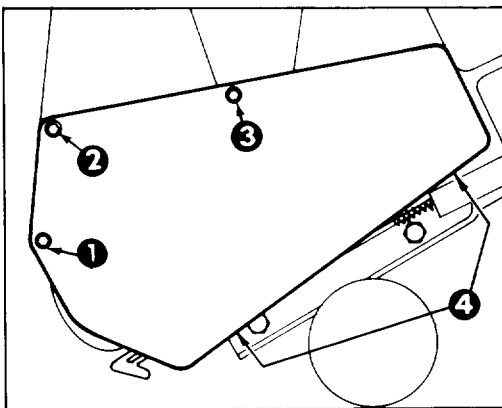

**Figure 12**
3. Tip snowthrower up onto its nose. Remove carriage bolts and locknuts holding scraper in place (Fig. 12). Remove scraper from housing.